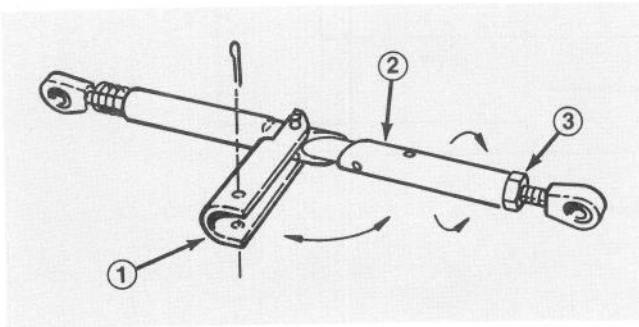

Figure 35
- A. Raise cutting unit and loosen jam nut on front end of belt tension rod (Fig. 35).
- A. Remove hair pin cotter and pivot belt tension rod handle away from cutting unit (Fig. 35).